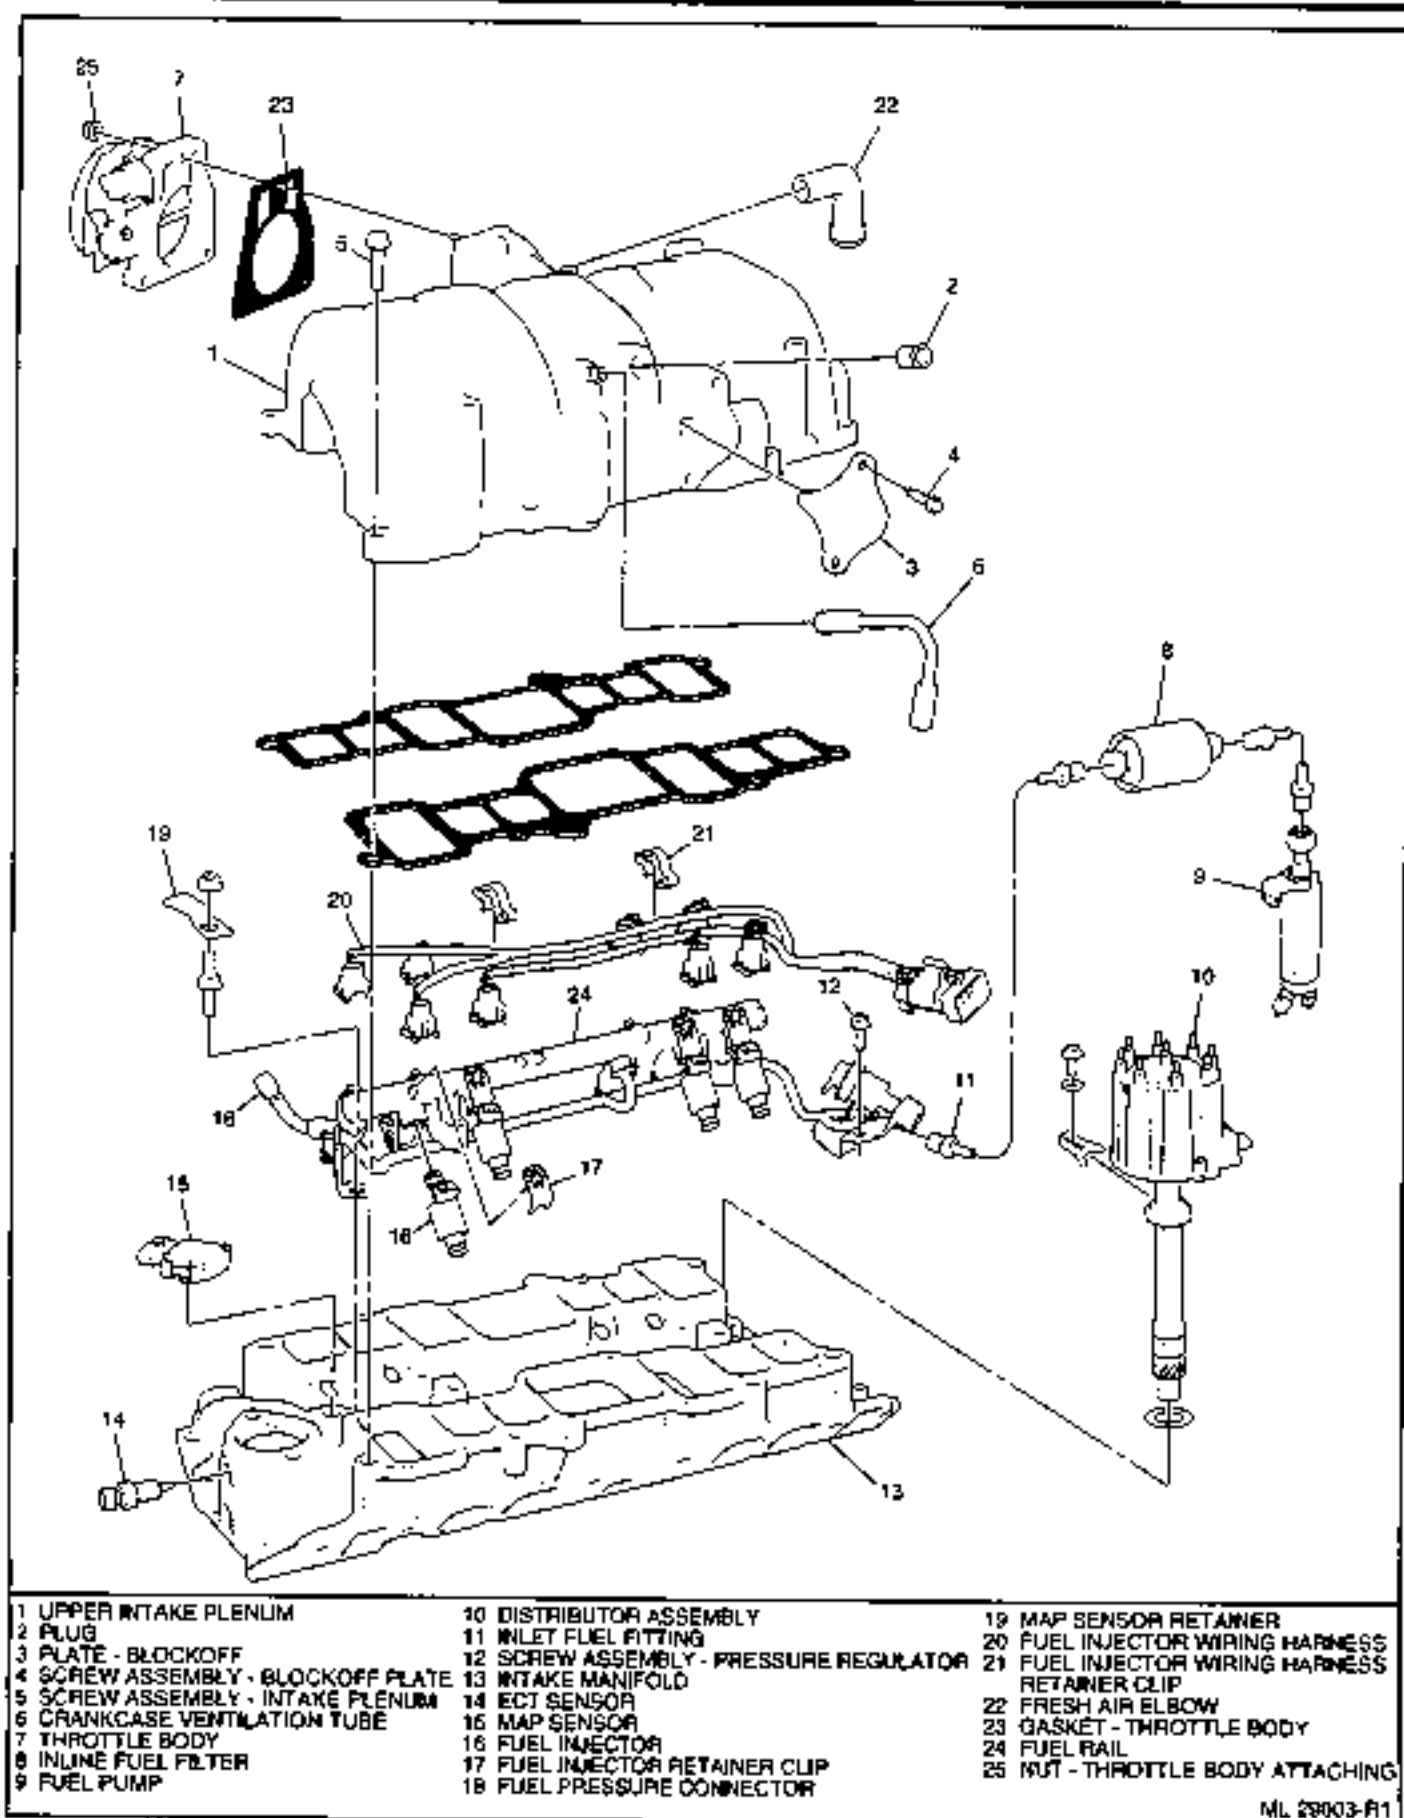

Figure 3-13 - Intake and Fuel System
3. All plenum retaining bolts. Torque to 14 Nm (124 lb.in.) in sequence as shown in Figure 3-13.
Figures 3-13 and 3-14
The fuel rail should be removed as an assembly with the injectors attached. Names of component parts will be found on the numbered list that accompanies the disassembled view (Figure 3-13).